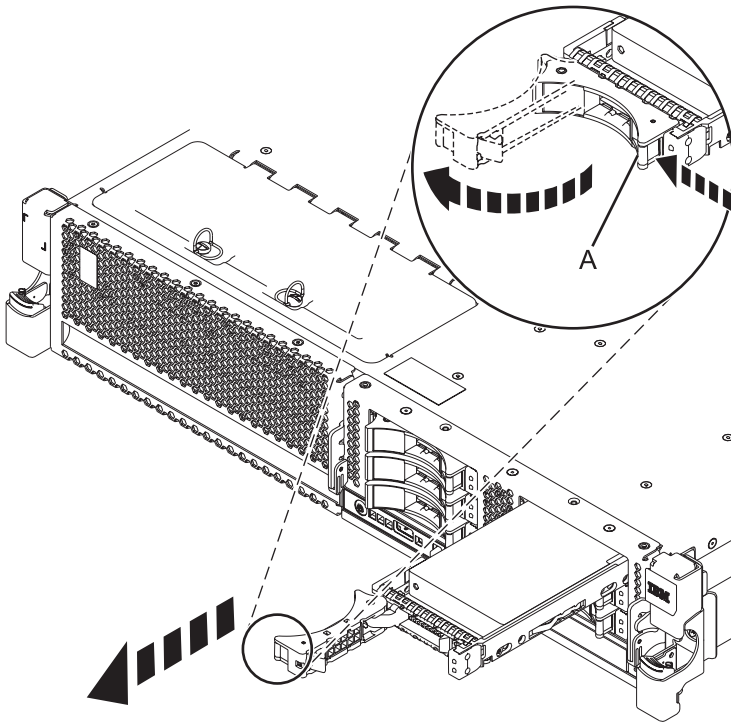

Figure 24. Removing a disk drive from the system
1. Unlock the disk drive or solid-state drive handle by squeezing it and pulling it out toward you, as shown in Figure 24 on page 40.